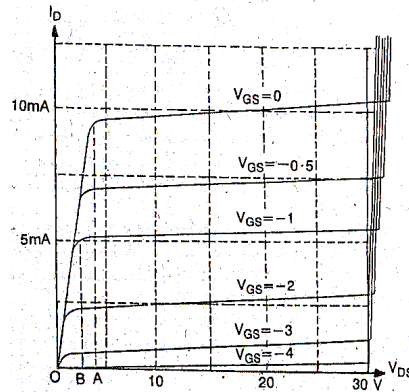

Fig. 35.4
**Characteristics of N-Channel JFET:** A curve drawn between drain current ( $I_D$ ) and drain-source voltage ( $V_{DS}$ ) of a JFET at constant gate-source voltage ( $V_{GS}$ ) is known as output characteristics of the JFET are shown in below fig.35.4